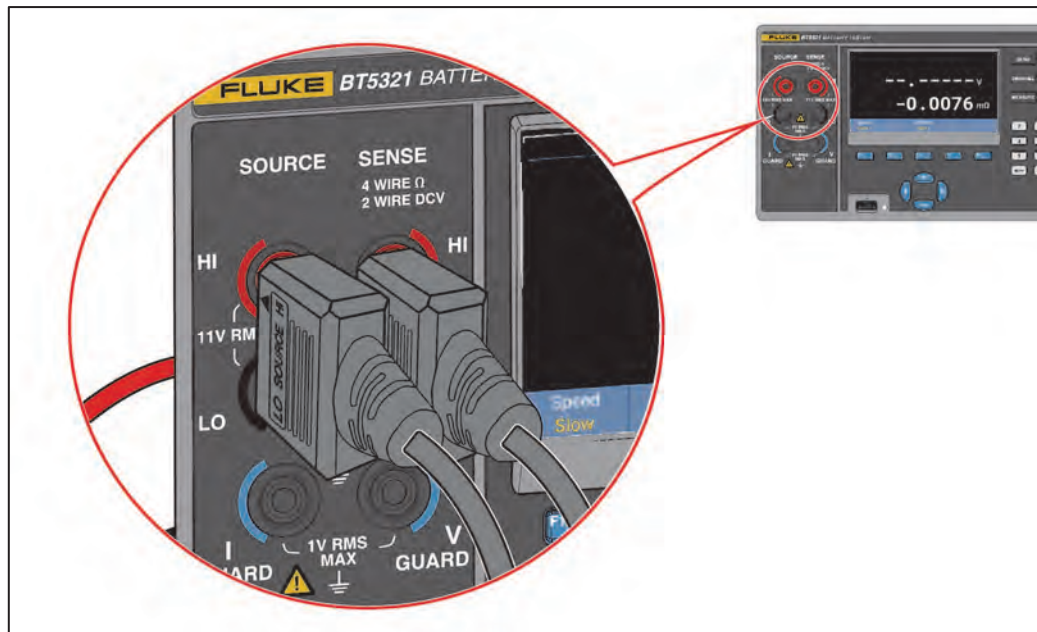

Figure 9. Connecting test leads
3. Plug the connectors of the 4-wire test leads to the front panel input terminals of the Product, as shown in Figure 9.